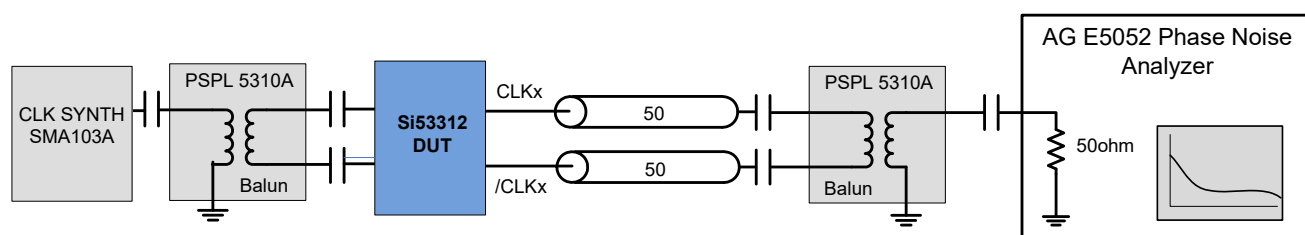

Figure 1. Differential Measurement Method Using a Balun
Notes: 1. For best additive jitter results, use the fastest slew rate possible. See “AN766: Understanding and Optimizing Clock Buffer’s Additive Jitter Performance” for more information. 2. AC-coupled differential inputs. 3. Measured differentially using a balun at the phase noise analyzer input. See Figure 1.
3. Measured differentially using a balun at the phase noise analyzer input. See Figure 1.